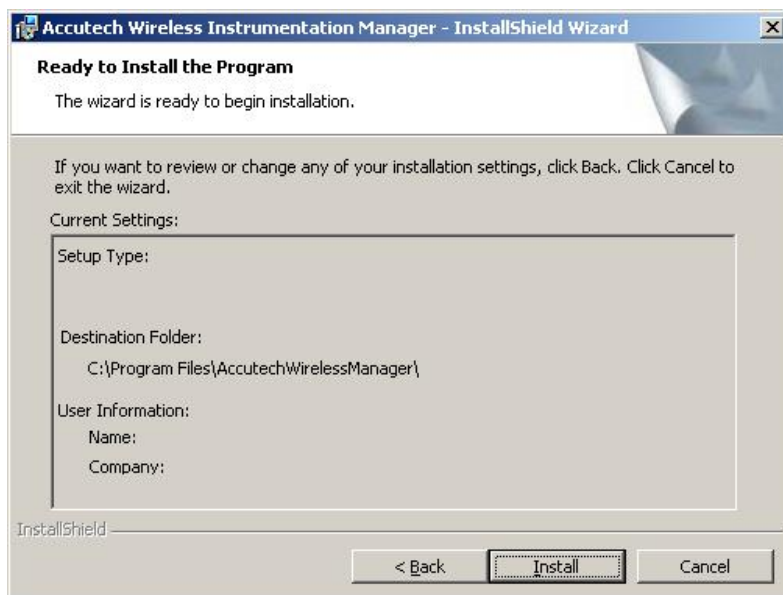

Figure 3-4: Installation Path Screen
- [9] After the installation is complete the screen in Figure 3-4 will be displayed.